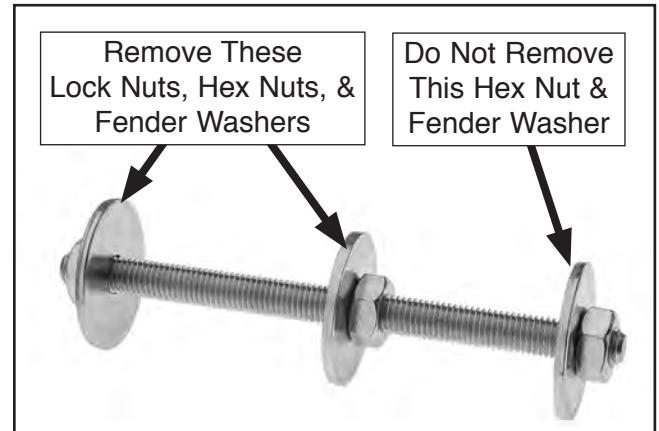

Figure 24. Coil support stud.
6. Remove (2) pre-installed M10-1.5 hex nuts and (2) 10mm fender washers from coil support stud (see **Figure 24**).